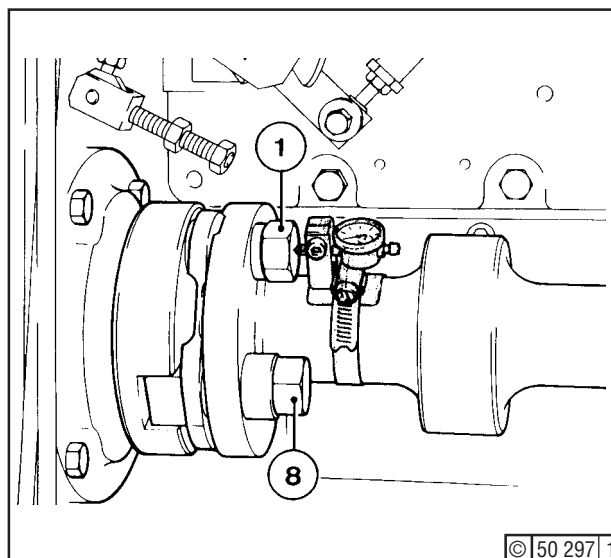

Fig. 11
- Tighten fitted bolts (1) crosswise - Fig. 11 - and (8), as specified (Section 3.5, line 14).
- Fasten dial gauge on shaft. Place feeler of dial gauge on fitted bolt head (1) at centre - Fig. 11. Do not confuse with fitted bolt (8)!